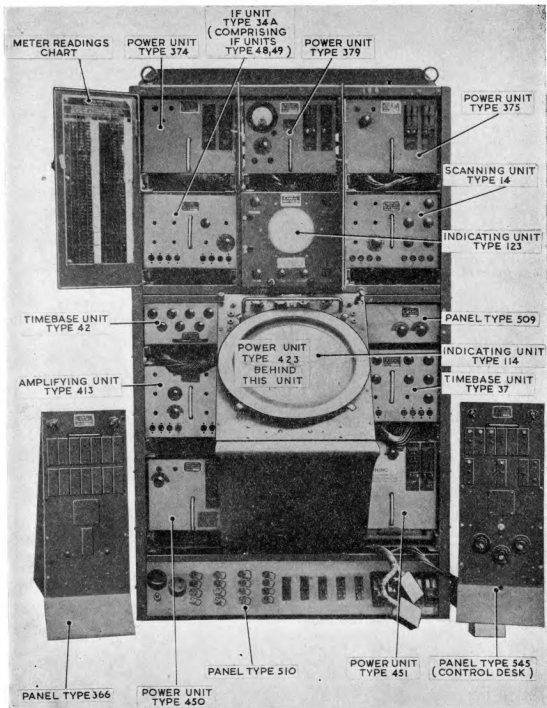

Fig. 38. Console No. 3 (Type 15A)
124. Console 3 (Type 15A), which is illustrated in fig. 38, provides:—
- (1) clamp and insert the tube, a CV1528. Replace the clamp and spinning and fit the base socket. It may be necessary to rotate the tube slightly after fitting in order that the timebase trace may be horizontal.
- (2) Check that the Y deflection links on the underside of indicating unit Type 114 are set for elevation deflection (*Chap. 2, para. 74*).
- (3) Ensure that all the control desk keys are off (*fig. 38*).
- (4) Rotate the control marked BRIGHTNESS at the top of the front panel of indicating unit Type 114 fully counterclockwise.
- (5) Lower the right-hand control desk to expose panel Type 566 or 509 (*fig. 38*). Set the BLANKING switch on that panel to position 2 (EL SCAN). Set the SYNC switch to L.P.O. (*para. 107 to 109*).
- (6) Replace the control desk and switch on the console, not forgetting to ascertain that the wall switch is on.
- (7) When the equipment has been switched on for at least two minutes, monitor the cathode current of the stabilizer valve in power unit Type 375 with the selector switch on that unit in position 8. The reading should be 0.4 mA. If it is incorrect, adjust it by means of the pre-set potentiometer, ADJUST STABILISER, just behind the front panel.